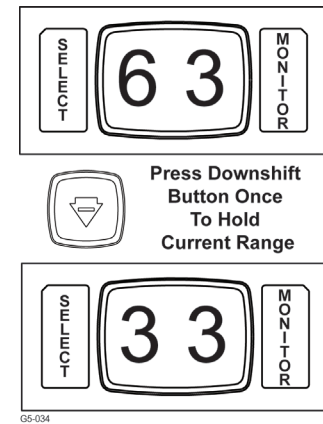

Figure B-3: Operation of Downshift Button
- One press of the **DOWNSHIFT** button sets range **SELECT** to the same range as the current range attained, shown in the **MONITOR** position on the display (Figure B-3). Referred to as Express Preselect.